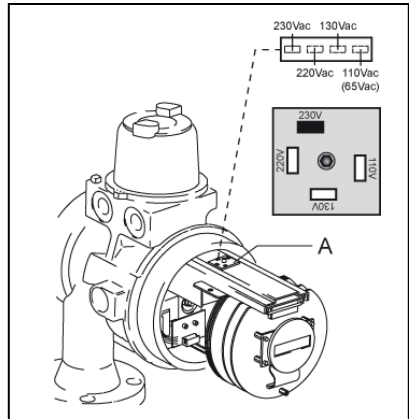

Figure 6 Voltage selector
It is marked with 'A' in figure 6.
- Slide switch in appropriate position (refer to figure 6.)